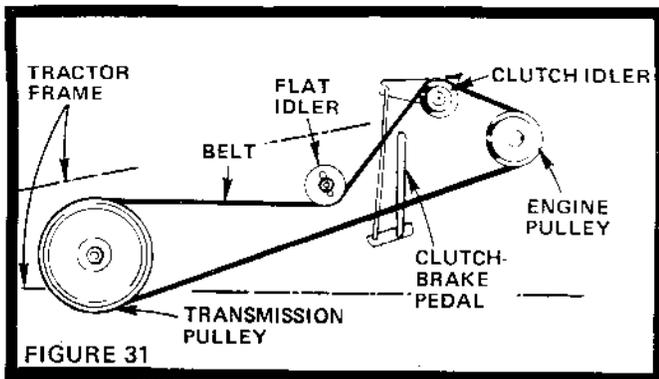

FIGURE 31
- Remove Belt from Clutch Idler by depressing Clutch-Brake Pedal (Fig. 31).